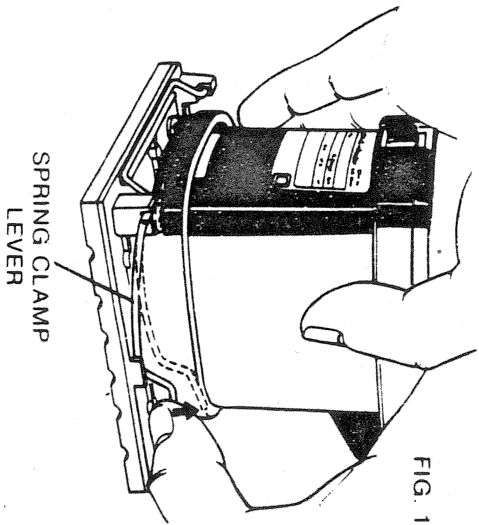

FIG. 1
2. Release clamp by pulling up on clamp lever and disengaging it from the tab on the base plate. (See Fig. 1)